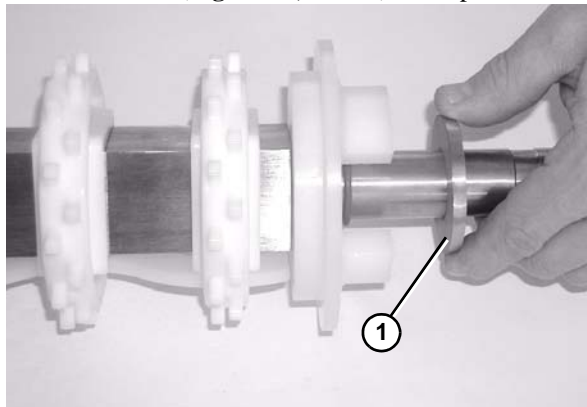

Figure 73
6. Install washer (**Figure 73, item 1**) onto spindle shaft.